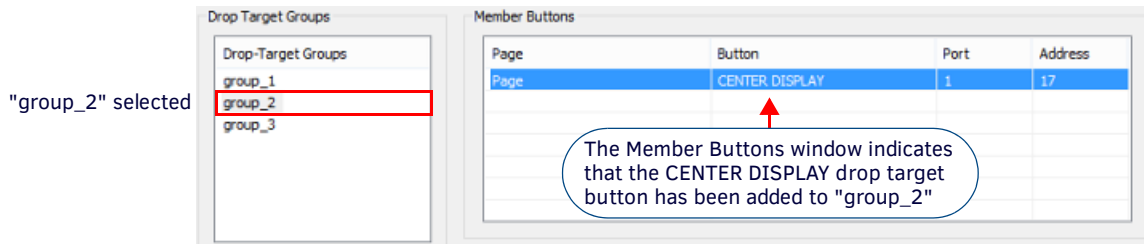

FIG. 261 Drop-Target Groups dialog - the CENTER DISPLAY dropTarget button is a member of "group_2"
3. Select CENTER DISPLAY and click **Add to Group** to move it into the *Member Buttons* window. This indicates that the CENTER DISPLAY Drop Target button is now a "member" of the "group_2" Drop-Target Group (FIG. 261):